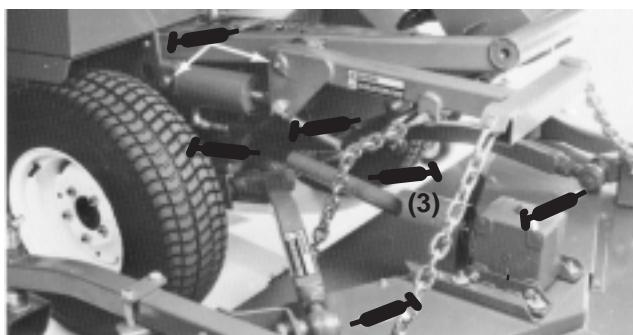

Figure 35
PTO shaft and yokes (3) (Fig. 35)
Lift arm pivots (Fig. 35)
Right and left push arm ball joints (Fig. 35)